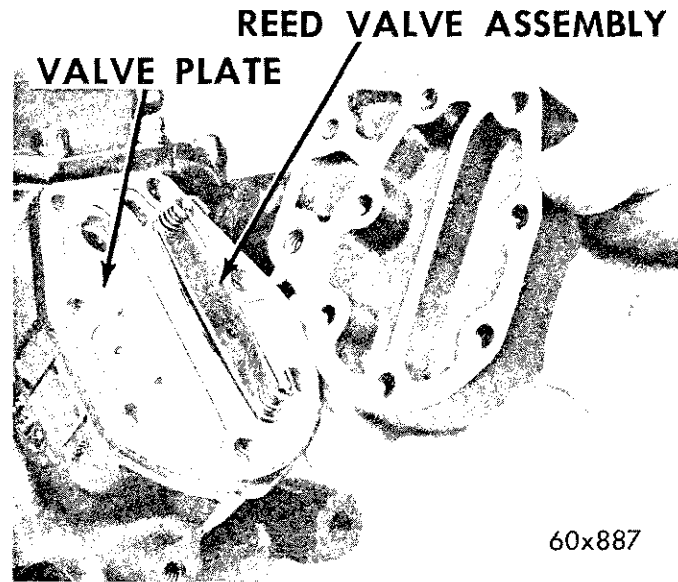

Fig. 55—Valve Plate—Installed Position
(1) The valve plate and cylinder head must be assembled with the reed valve assembly positioned, as shown in Fig. 55.